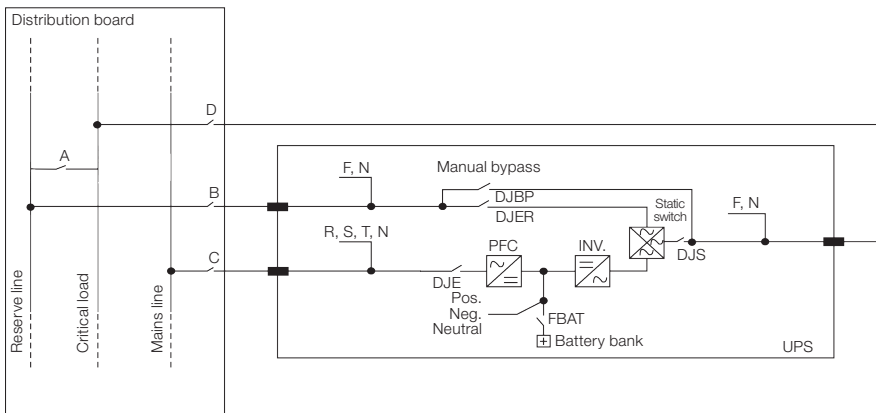

Figure 2.5: Possible input/output configurations of the UPS
In order to connect the equipment to the mains, it is recommended to use one of the configurations shown in Figure 2.5 on page 13. B-C-D circuit breakers are thermomagnetic without differential protection. If necessary, they must have a pick-up current above 0.3 A, delayed type and suitable for direct current loads (type A). The capacity (kVA) must be equal to or greater than the capacity of the equipment, indicated on the serial number label, according to Section 2.6 UPS IDENTIFICATION LABEL on page 9. Circuit breaker A is used as external Bypass.
- Then, install the four-pole circuit breakers in compliance with the regulations in force, with Curve C, as shown in Figure 2.5 on page 13.